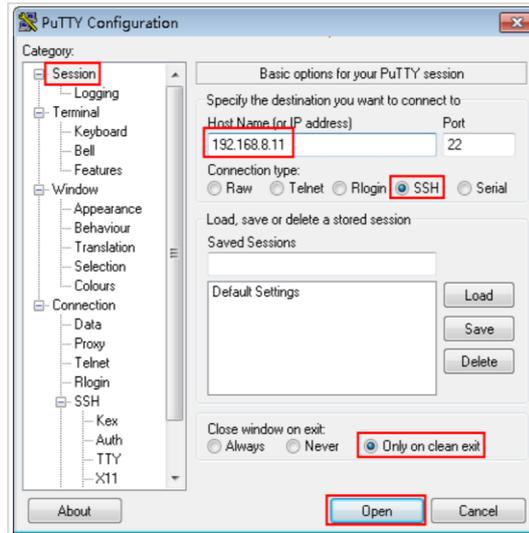

Figure 6-2 PuTTY Configuration
- Step 3 In the navigation tree on the left, choose **Session**. In the right pane, enter the IP address of the service network port on the server in Host Name (or IP address). In the Connection type area, select **SSH**. In the Close window on exit window, select **Only on clean exit** in the area and click Open, as shown in Figure 6-2.